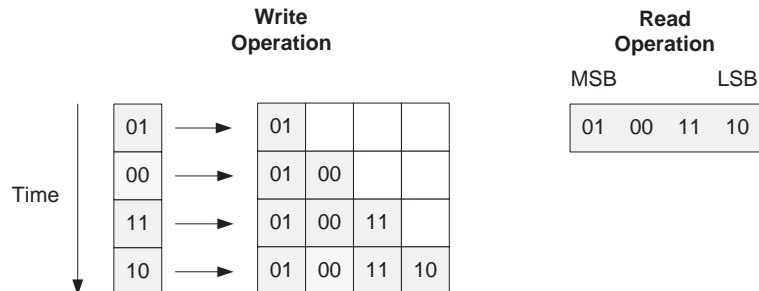
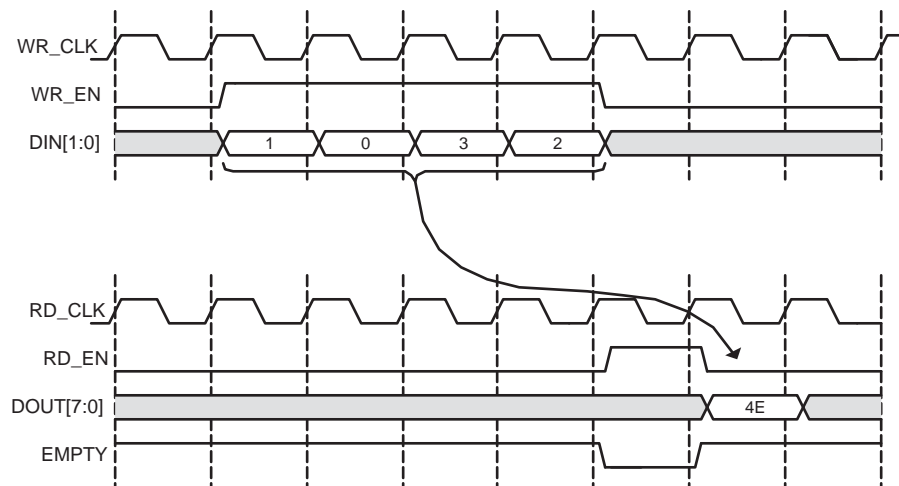

Figure 5-17: 1:4 Aspect Ratio: Data Ordering
Figure 5-18: 1:4 Aspect Ratio: Status Flag Behavior
**Note:** For non-symmetric aspect ratios where the write width is smaller than the read width (1:8, 1:4, 1:2), the most significant bits are read first (refer to Figure 5-17 and Figure 5-18).
Figure 5-17 is an example of a FIFO with a 1:4 aspect ratio (write width = 2, read width = 8). In this figure, four consecutive write operations are performed before a read operation can be performed. The first write operation is 01, followed by 00, 11, and finally 10. The memory is filling up from the left to the right (MSB to LSB). When a read operation is performed, the received data is 01\_00\_11\_10.
Figure 5-18 shows DIN, DOUT and the handshaking signals for a FIFO with a 1:4 aspect ratio. After four words are written into the FIFO, EMPTY is deasserted. Then after a single read operation, EMPTY is asserted again.